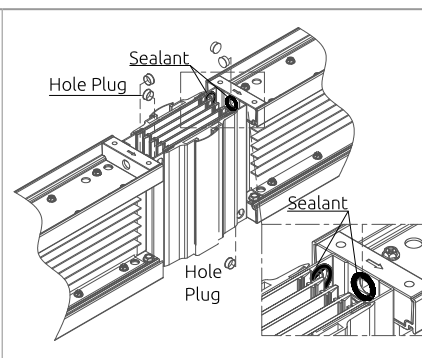

Figure 9.2
2. Remove all hole plug from end block and alu 'S', apply sealant around all the hole (See Figure 9.2)
3. Plug the hole plug as per Figure 9.2 into inner side of busway joint.